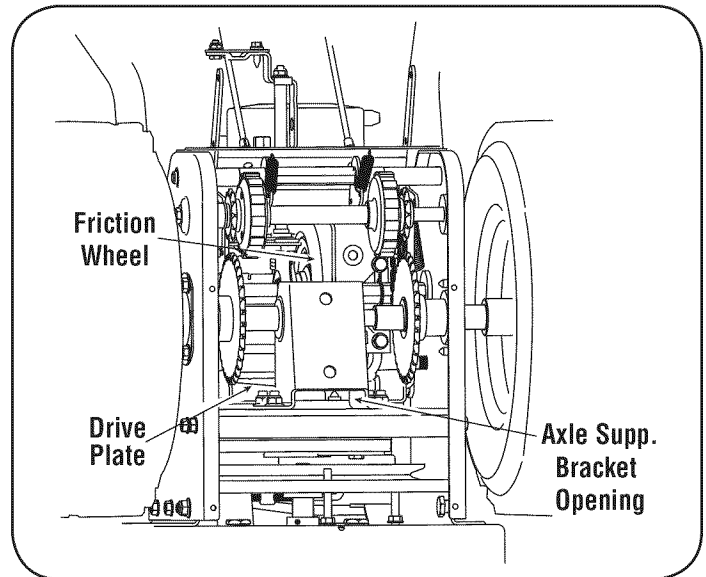

Figure 24
2. Locate the opening between the axle support bracket and the front frame support (See Figure 24). Looking through this opening, with the wheel drive control released, there must be clearance between the friction wheel and the drive plate in all positions of the speed selector lever.
3. With the wheel drive control engaged, the friction wheel must contact the drive plate. See Figure 24.